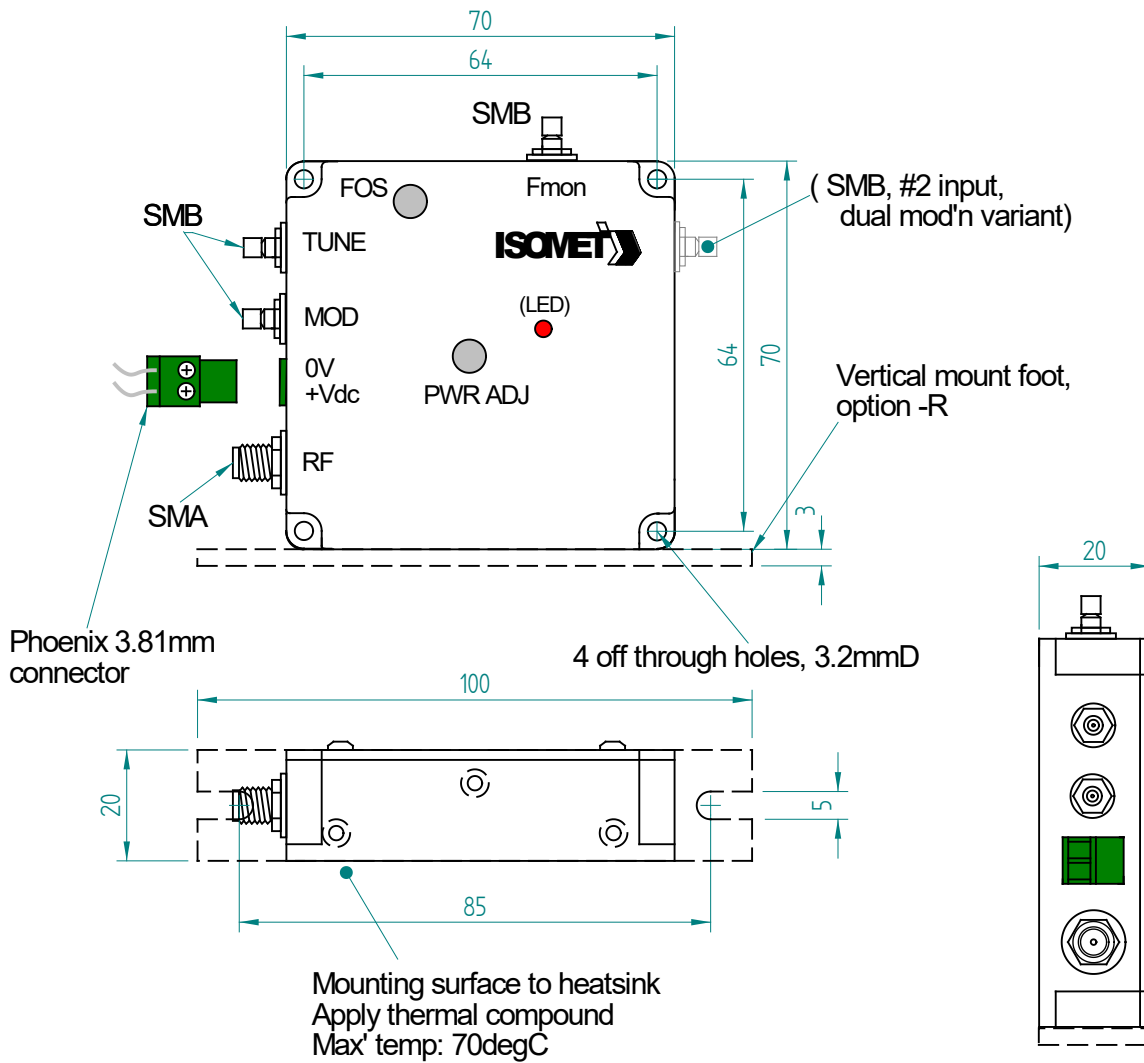

Figure 1, Driver Installation
The RFx series Modulator/Deflector Driver, figure 1, is a modular, swept-frequency RF power source specifically designed to operate with Isomet acousto-optic deflectors (scanners). The driver accepts a tuning voltage between approximately +0 volts and +10 volts and provides an RF output to the acousto-optic deflector at the tuned frequency. The driver also accepts amplitude modulation signal(s). Examples of popular driver specifications are listed below:
- b. With no d-c power applied, connect the + 24Vdc line to the centre terminal of the feed-thru terminal as shown in Figure 1. DO NOT APPLY POWER UNTIL THE LOAD IS CONNECTED.